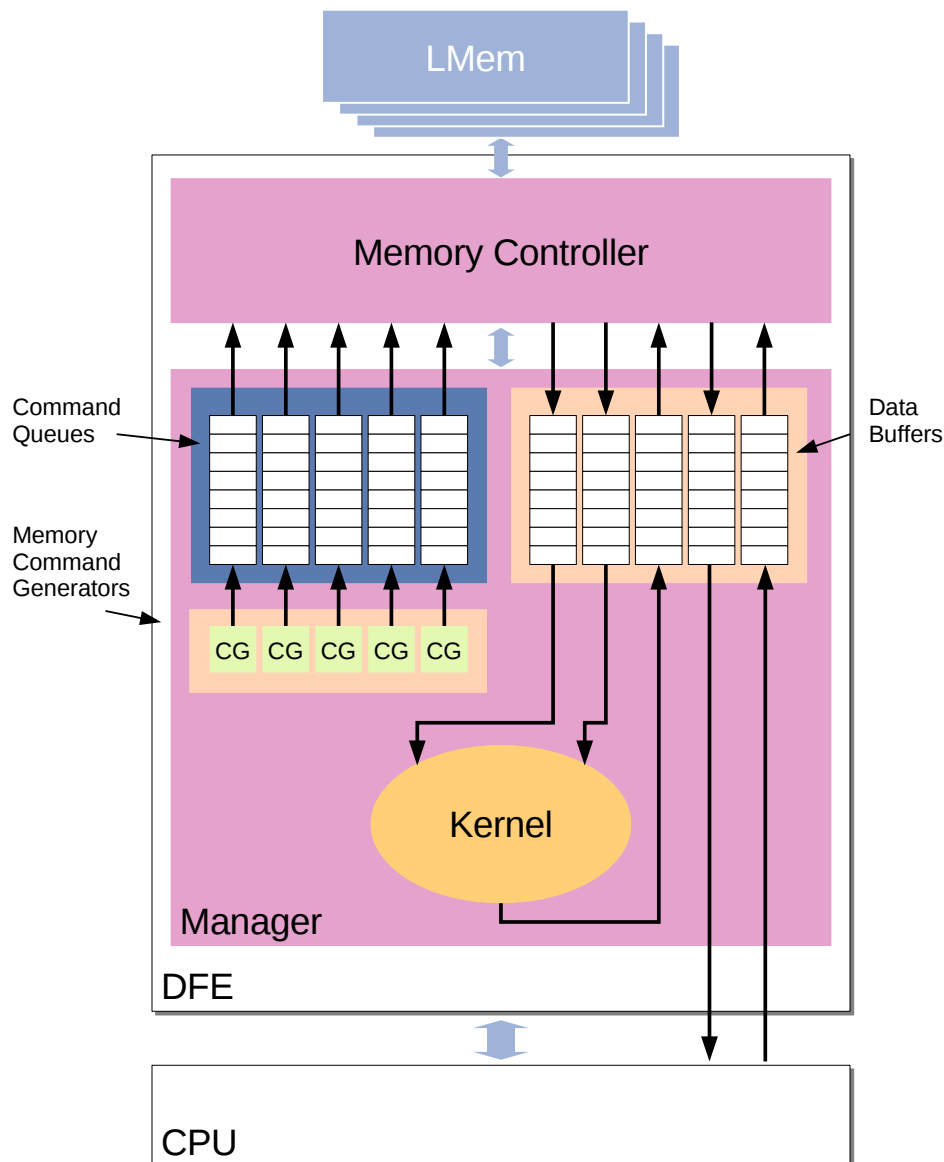

Figure 4: LMem controller architecture
*Figure 4* shows the architecture of the memory controller as used in Example 1. In this case, we have an example Kernel with two inputs and one output, both connected to the LMem via Manager streams. We also have two memory streams that are connected to the CPU to give it direct access to the LMem over PCI Express. The five streams each have their own memory command generator, command queue and data buffer. The **memory command generator** generates commands instructing the memory controller to read or write a specified amount of data to or from a specified location in the LMem, and places these commands in the command queue for the stream. The **memory controller** reads commands from the queues, and, if the data buffer for the referenced stream is ready (not full for a read stream, not empty for a write stream), executes the memory operations.